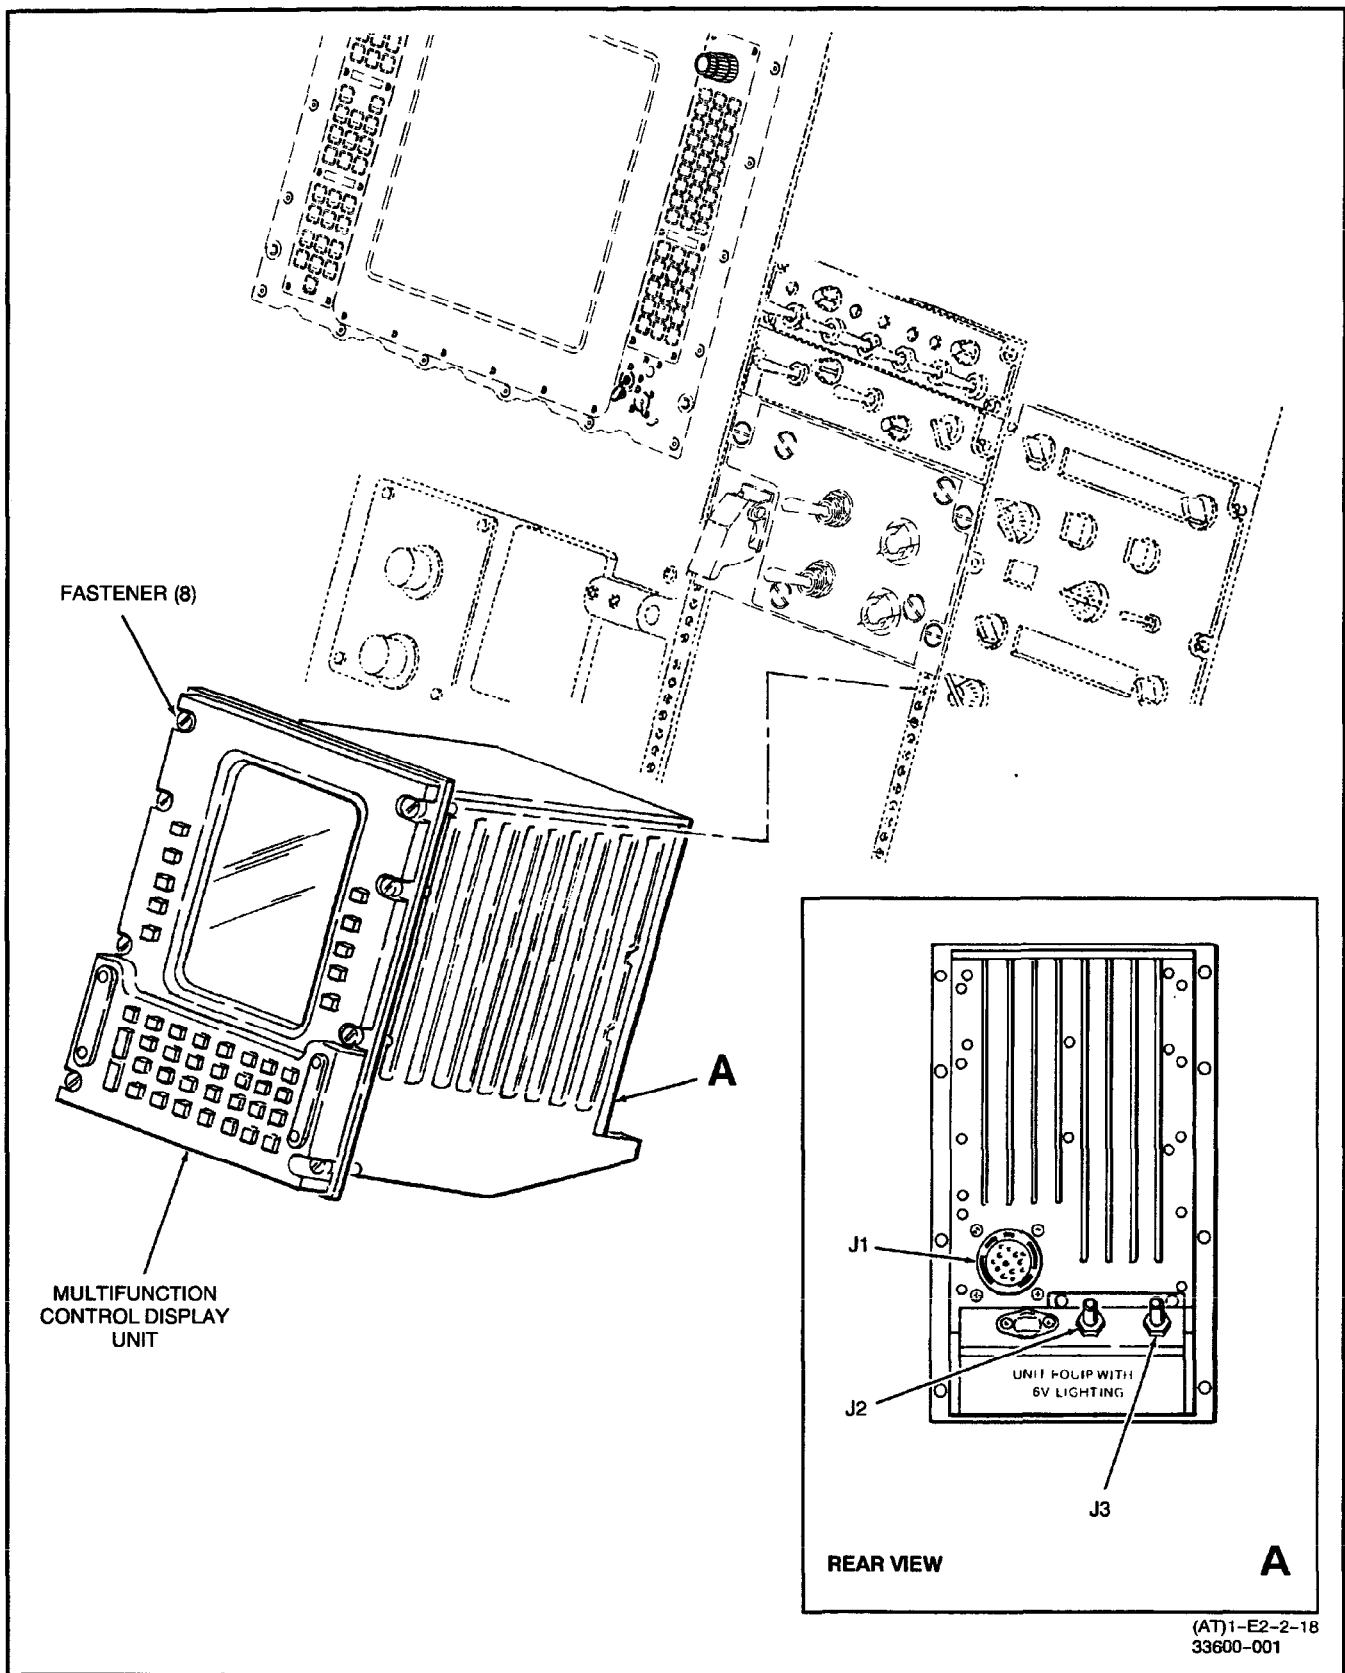

Figure 1. Removal and Installation of Multifunction Control Display Unit C-12075/A and C-12390/A in Crew Compartment, Left Side
**3. REMOVAL.** (Figures 1 and 2.)
4. **INSTALLATION.** (Figures 1 and 2.)